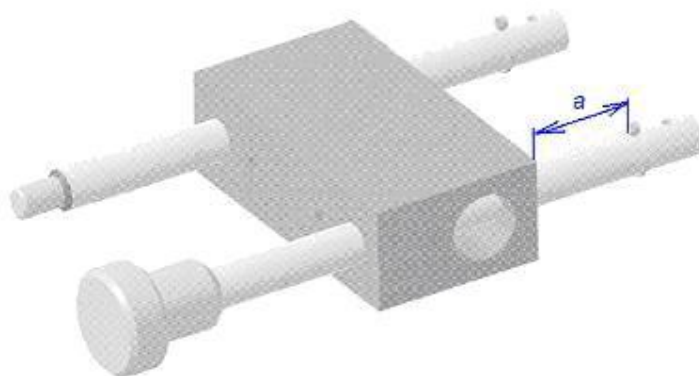

Fig. 5
- e. If the carb heat is activated, but the handle is not fully pulled out, do the following; Mark length on the handle it can be pulled more (distance "a" from the bracket to the cotter-pin in the handle). Fig. 5. Release the stop C9997816C (Cable stop 1806-Z ni) by a screwdriver.